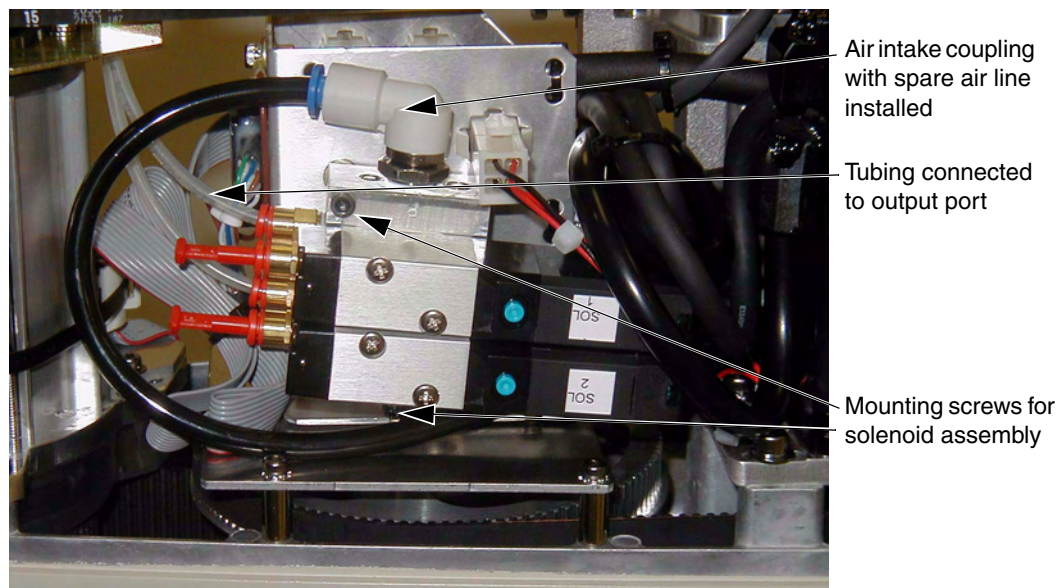

Figure 6-9. Solenoid Placement Using Mounting Hardware
5. Mount the solenoid manifold onto the bracket using the supplied M3 x 25 mm screws and washers (see Figure 6-9 on page 80).